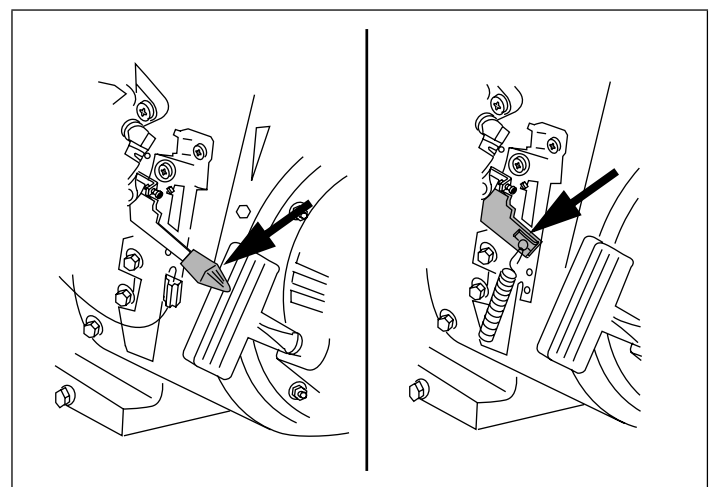

Figure 26. Engine Mounted Speed Controls
7. Move Engine Speed Control to desired speed in "RUN" range. See Figure 26.